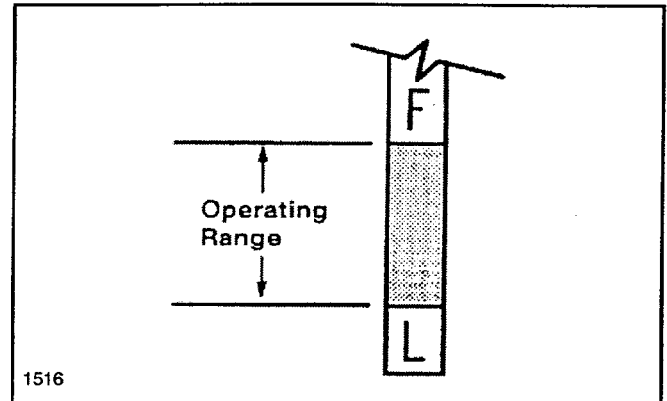

FIG. 15
2. Add oil if necessary to bring the level up to, but not over, the "F" mark on the dipstick (See FIG. 15). For detailed instructions see BEFORE OPERATING, CHECK ENGINE CRANKCASE OIL page 16.
7. Fill the crankcase with new oil of the proper type, to the "F" mark on the dipstick. See FIG. 15 page 36.